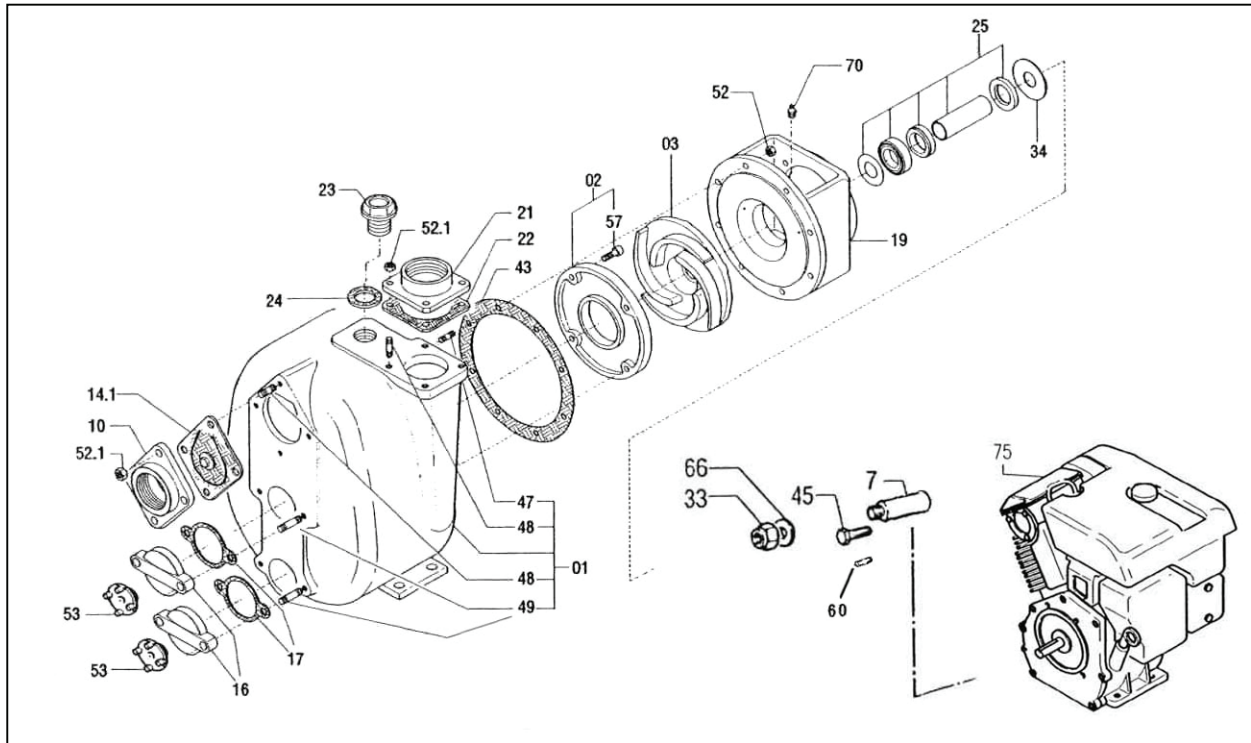

Figure 43
9.3.3 Impeller & Casing (figure 43, #03 & #01)
The impeller (figure 43, #03) turns with the shaft assembly and generates the flow and pressure of the pump assembly. The impeller (figure 43, #03) is the “heart” of the pump and if this item is damaged, substantial decreases in pump performance will be noted. To inspect the impeller (figure 43, #03), do the following:
1. Empty the pump casing (figure 43, #01) through the drain plug (figure 43, #16).
2. Unscrew the casing nuts (figure 43, #52) and remove the pump casing (figure 43, #01), taking care not to damage the casing gasket (figure 43, #43).
3. Inspect the interior of the casing (figure 43, #01) for damage and wear.
4. Inspect the impeller vanes (figure 43, #03) for damage and wear.
5. Check the distance between the impeller (figure 43, #03) and the casing (figure 43, #01) as described in Impeller Adjustment Section 9.5.
If the impeller (figure 43, #03) appears to be damaged it must be replaced. If the impeller (figure 43, #03) cannot be adjusted as described in Section 9.5 Impeller Adjustment, the impeller (figure 43, #03) may be damaged and needs to be replaced (see section 9.4.2).
Inspect the flat-machined surface inside of the casing (figure 43, #01). If this surface is substantially corroded or damaged, the casing (figure 43, #01) must be replaced (see section 9.4.3).